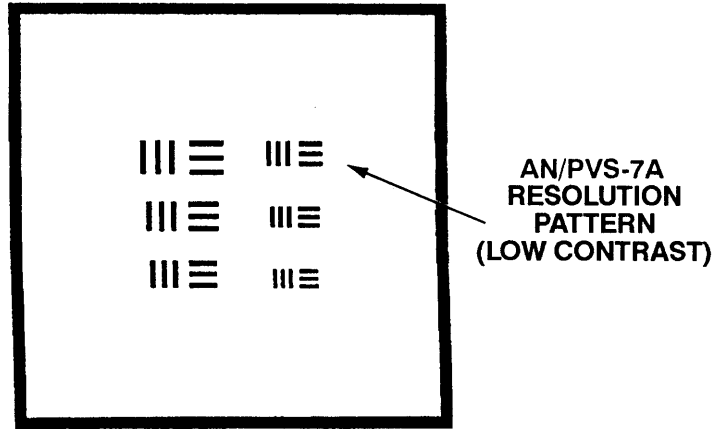

Figure 3-14. TS-3895/UV Low-Light Resolution Test Pattern.
- g. Now observe the test pattern. The resolution test pattern has three horizontal lines and three vertical lines (see Figures 3-14 and 3-15). You must be able to distinguish all three horizontal lines and all three vertical lines and the space between the lines to count seeing the group. On the TS-3895/UV, you must be able to see the four largest groups for the AN/PVS-7A to pass. On the TS-3895A/UV, you must be able to see Group 3 on the bottom of the test pattern for the AN/PVS-7A to pass.